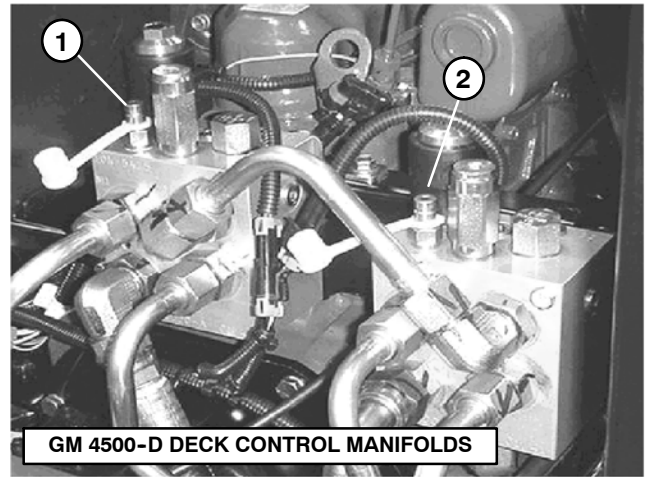

Figure 28
3. Install test gauge with hydraulic hose attached to deck control manifold test port for the gear pump section to be tested (Fig. 28 or 29).